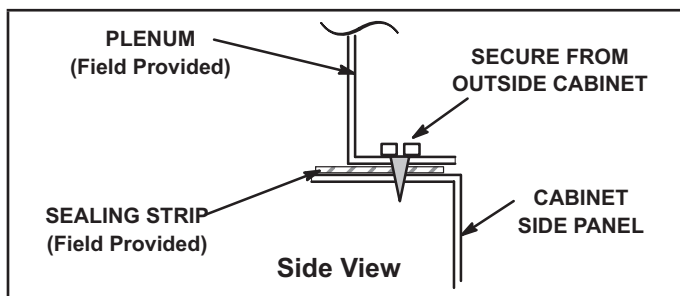

FIGURE 17
- 1 - Bottom edge of plenum should be flanged with a hemmed edge (See figure 17 or 18).